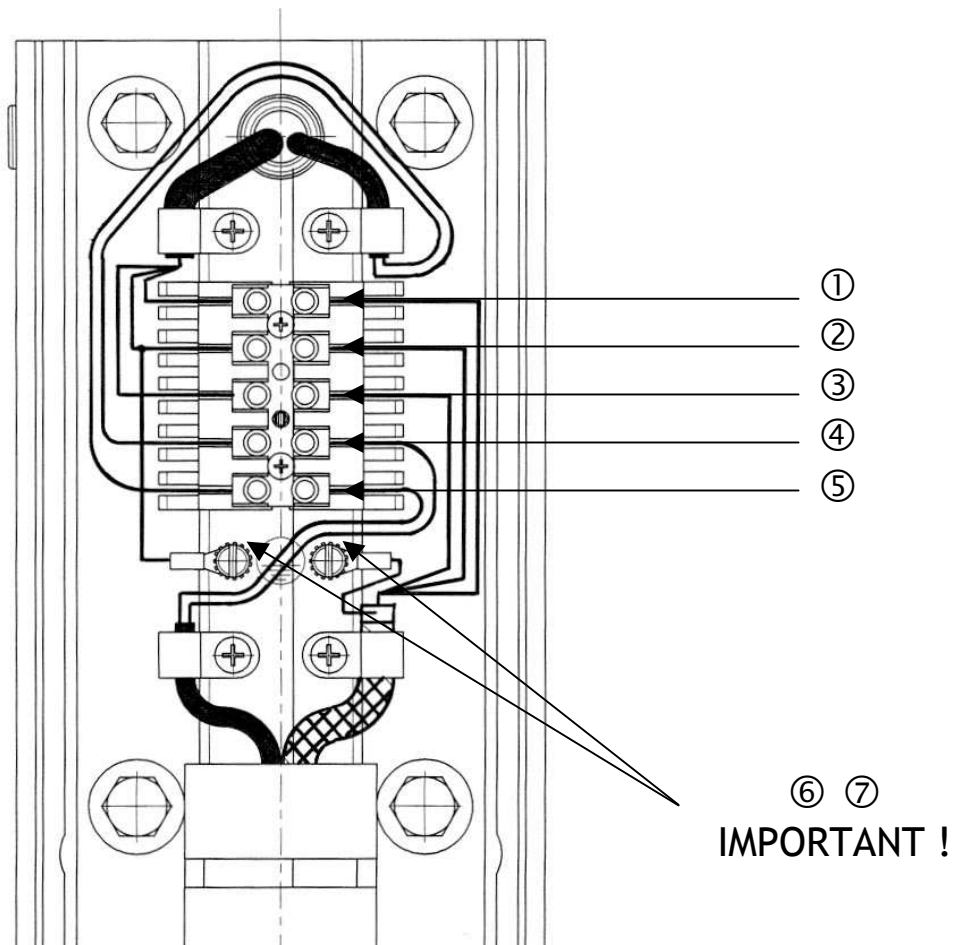

Fig. 11
2. Proceed with the electrical connection as shown in Fig. 11